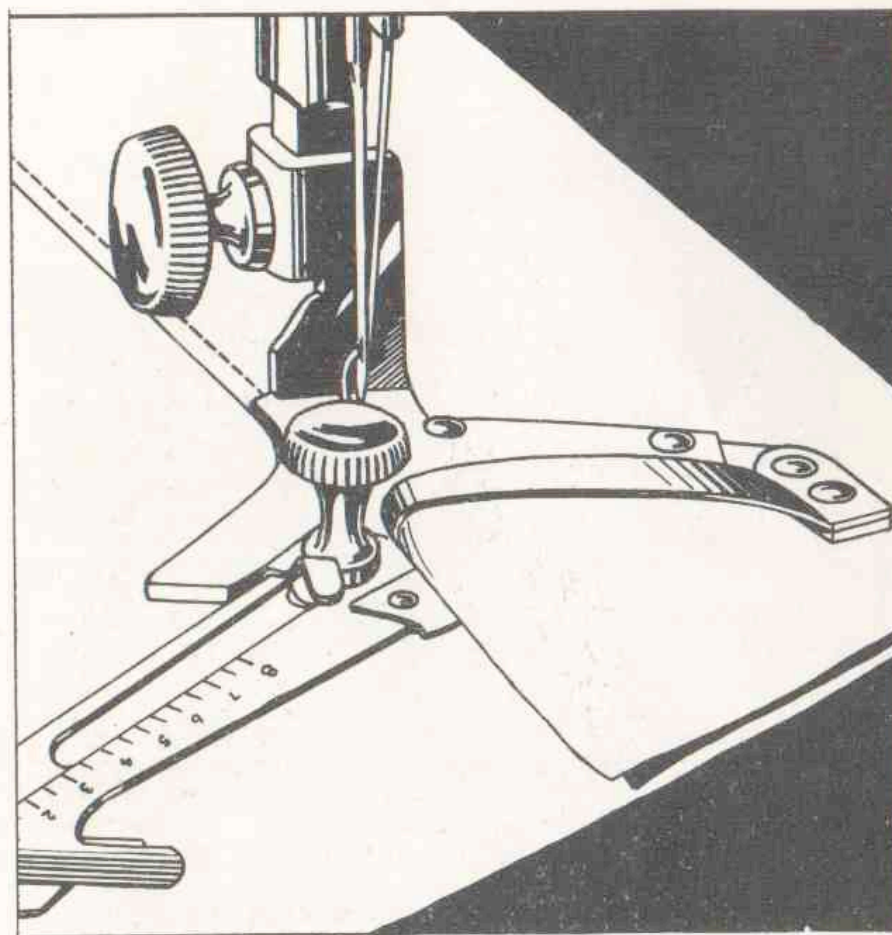

*Fig. 52. Showing How Adjustable Hemmer
2. Place the cloth in the hemmer and draw it back and forth until the hem is formed, as shown in Fig. 52.